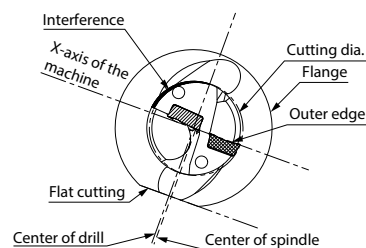

Fig. 4 Excessive offset (For smaller hole diameter)
- Align the drill with the outer insert face parallel to the X-axis of the tool turret. (Fig. 4)
Be sure not to make the hole diameter smaller than the drill diameter by 0.2mm or more. Otherwise, the toolholder will interfere with the drilled hole. (Fig. 4)